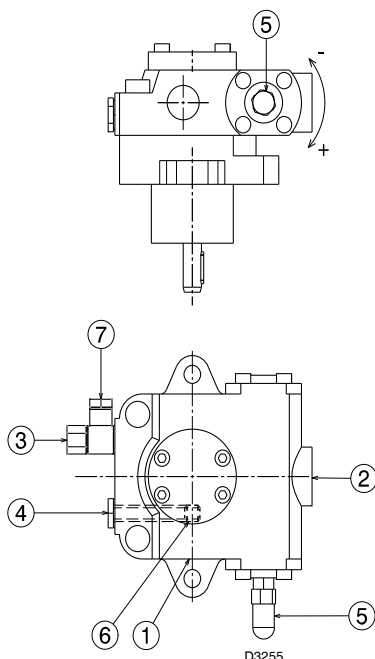

Fig. 18
For the priming pump loosen the screw 4)(Fig. 18) in order to bleed off the air contained in the suction line and wait until the fuel flows out.
Key (Fig. 18)
- For self-priming to take place, the screw 4)(Fig. 18) of the pump must be loosened in order to bleed off the air contained in the suction line.
- The pump is primed when gas oil comes out of screw 4)(Fig. 18). Stop the burner and screw screw 4) in.
If the pump has been drained, fill it with fuel through the opening on the vacuum meter 4)(Fig. 18) prior to starting; otherwise, the pump will seize.
14 bar: in order to increase fuel delivery or to ensure firings even at temperatures of less than 0 °C. In order to adjust pump pressure, use the screw 5)(Fig. 18 at page 21).